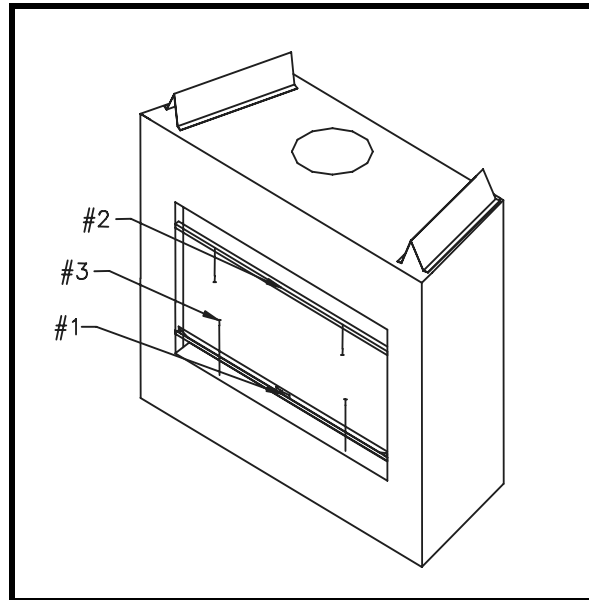

Figure 20: Door Rail Installation
1. Remove and discard the two (2) screws that secure the C-Channel below the top opening of the fireplace.
2. Attach bottom rail (#1) to unit with 2 sheet metal screws (#3). Refer to Figure 20.
3. Attach top rail (#2) to unit with 2 sheet metal screws (#3). Refer to Figure 20.